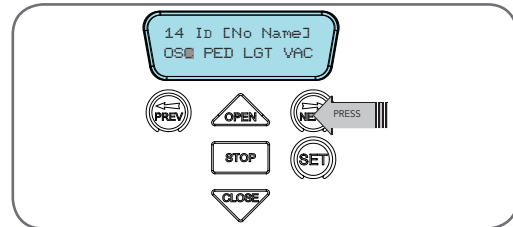

fig 32
1. Press NEXT or PREV to move the cursor over Store No. (**Fig. 32**)